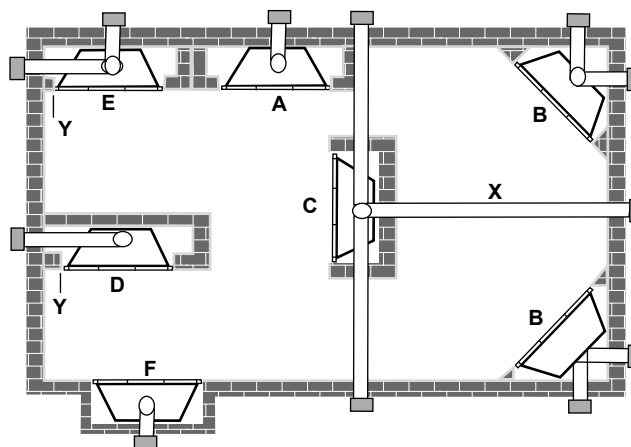

Figure 8 - Locating Gas Fireplace
- This fireplace may be installed along a wall, across a corner, or use an exterior chase. See *Figure 8* for suggested locations.